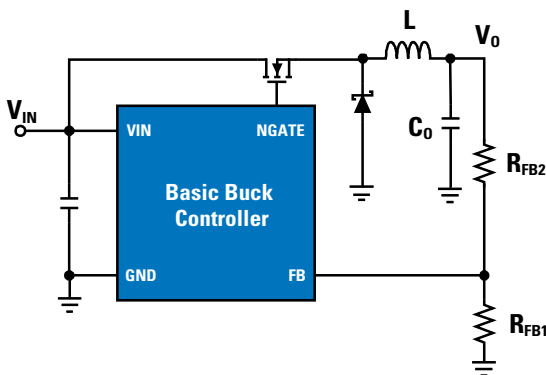

Figure 4A: Basic Step-Down (Buck) Voltage Regulator
Switching regulators are most commonly known as voltage regulators. **Figure 4A** illustrates a basic constant-voltage buck regulator. The buck controller maintains a constant output voltage as the line voltage changes by varying the operating duty cycle (D) or the switching frequency. The desired output voltage set point is programmed using the following equation: